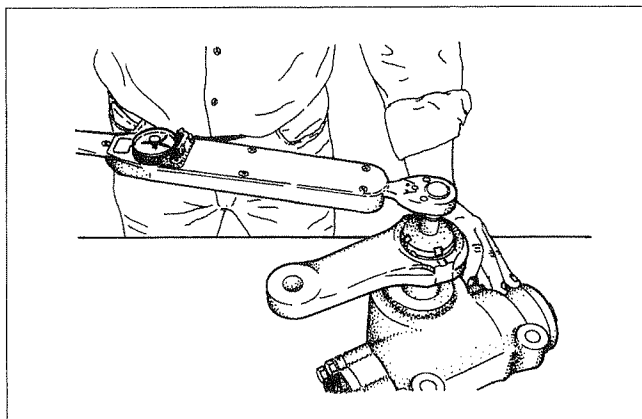

Figure 12
5. Torque the retainer to 310Nm (225 ft. lbs.) (Figure 12).